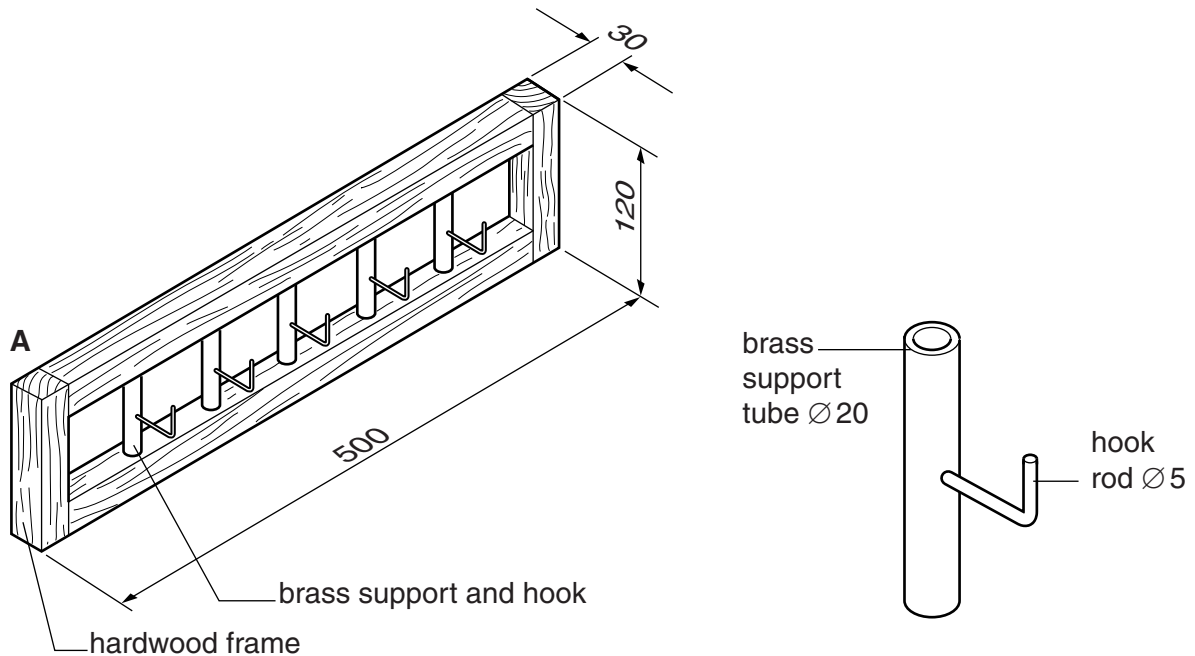

Fig. 5
- 4 Fig. 5 shows a wall mounted coat rack and details of one support and hook. The coat rack has a hardwood frame. The brass supports are held in holes drilled into the hardwood frame.